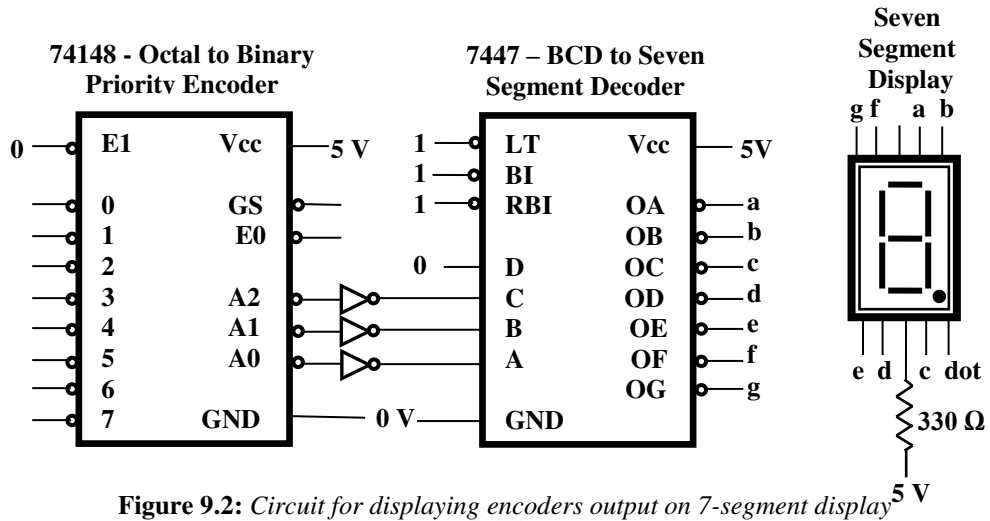

Figure 9.2: Circuit for displaying encoders output on 7-segment display
You are required to display the outputs of a 74148 encoder IC on a seven segment display. The circuit is given in figure 9.2.
- Make connections as shown in figure 9.2. (refer to appendix A for IC pin configurations).